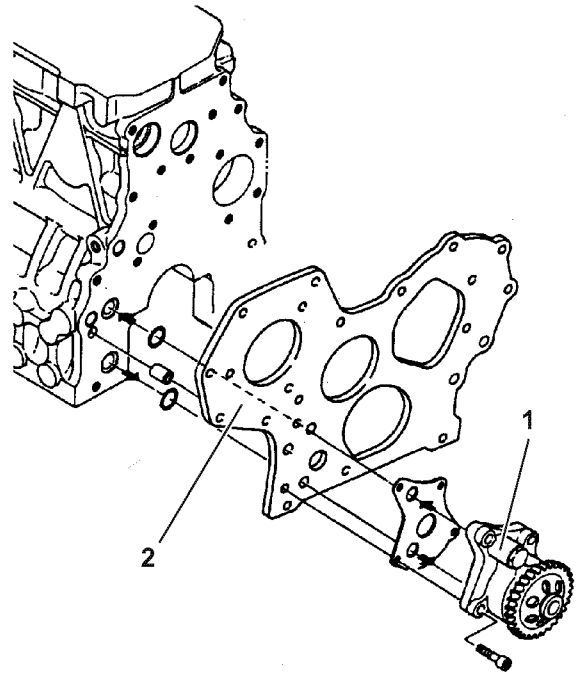

Figure 9-5
2. Remove the lubricating oil pump assembly mounting bolts. Remove the lubricating oil pump assembly (1, **Figure 9-5**) from the gear case flange (2, **Figure 9-5**).